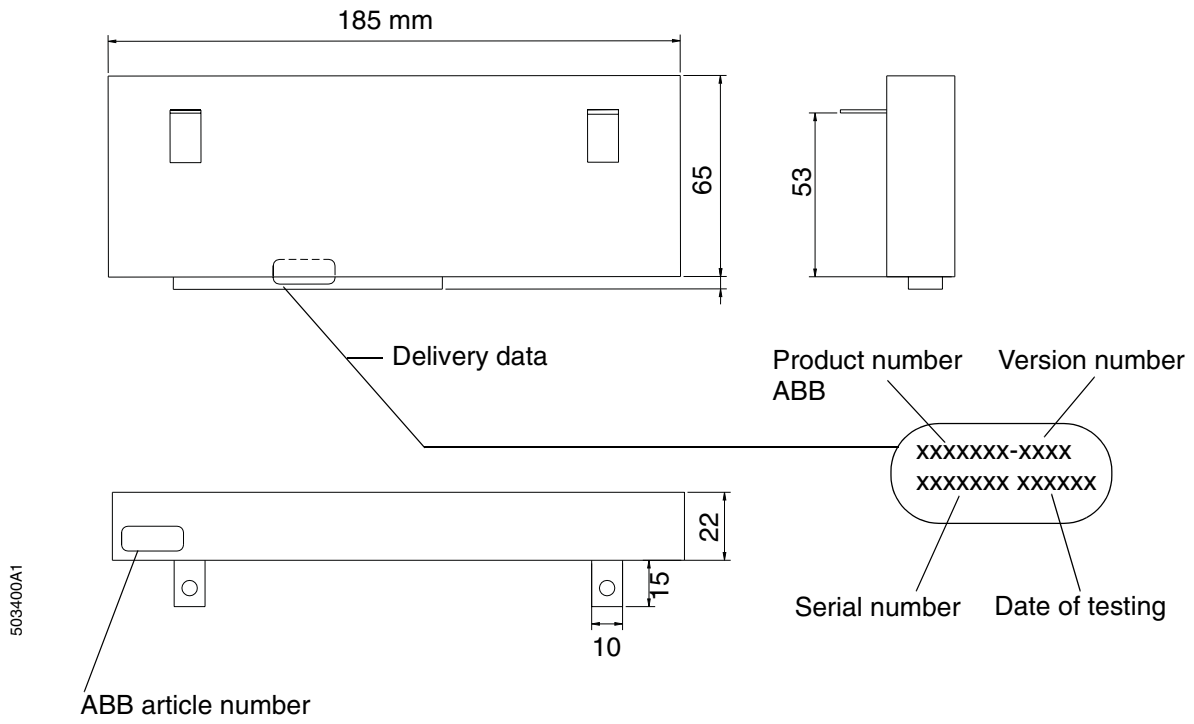

Figure 25
**Marking:** See Figure 25.
Dimensions: 22x65x185 mm (see Figure 25)